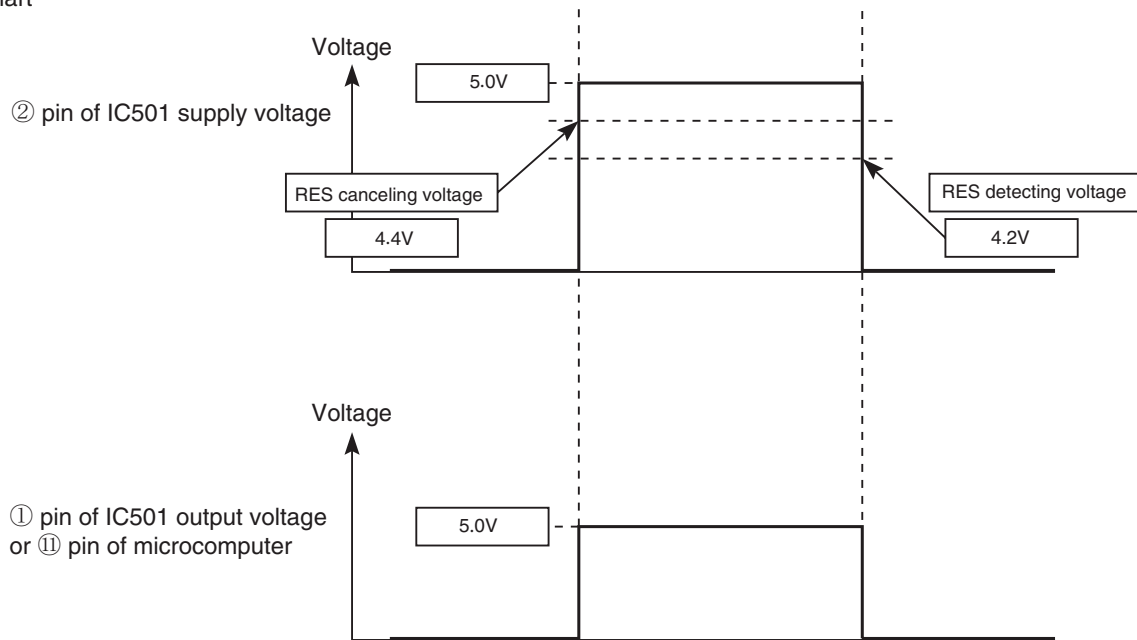

Fig.2-2
- Microcomputer operates when ⑬ pin of the indoor unit microcomputer (reset input) is "Lo" for resetting and "Hi" for heating.
- Waveform of each part when switching ON the power and when shutting down is shown in the Fig. 2-2.
- After switching ON the power, ① pin of IC501 supply voltage and ⑬ pin of microcomputer becomes Hi when DC5V line rises and reaches approximately 4.4V or higher. Then, resetting will be cancelled and microcomputer starts operating.
- After shutting down the power, ① pin of IC501 supply voltage and ⑬ pin of microcomputer becomes Lo when DC5V line falls and reaches approximately 4.2V or lower. Then, the microcomputer will be in reset condition.